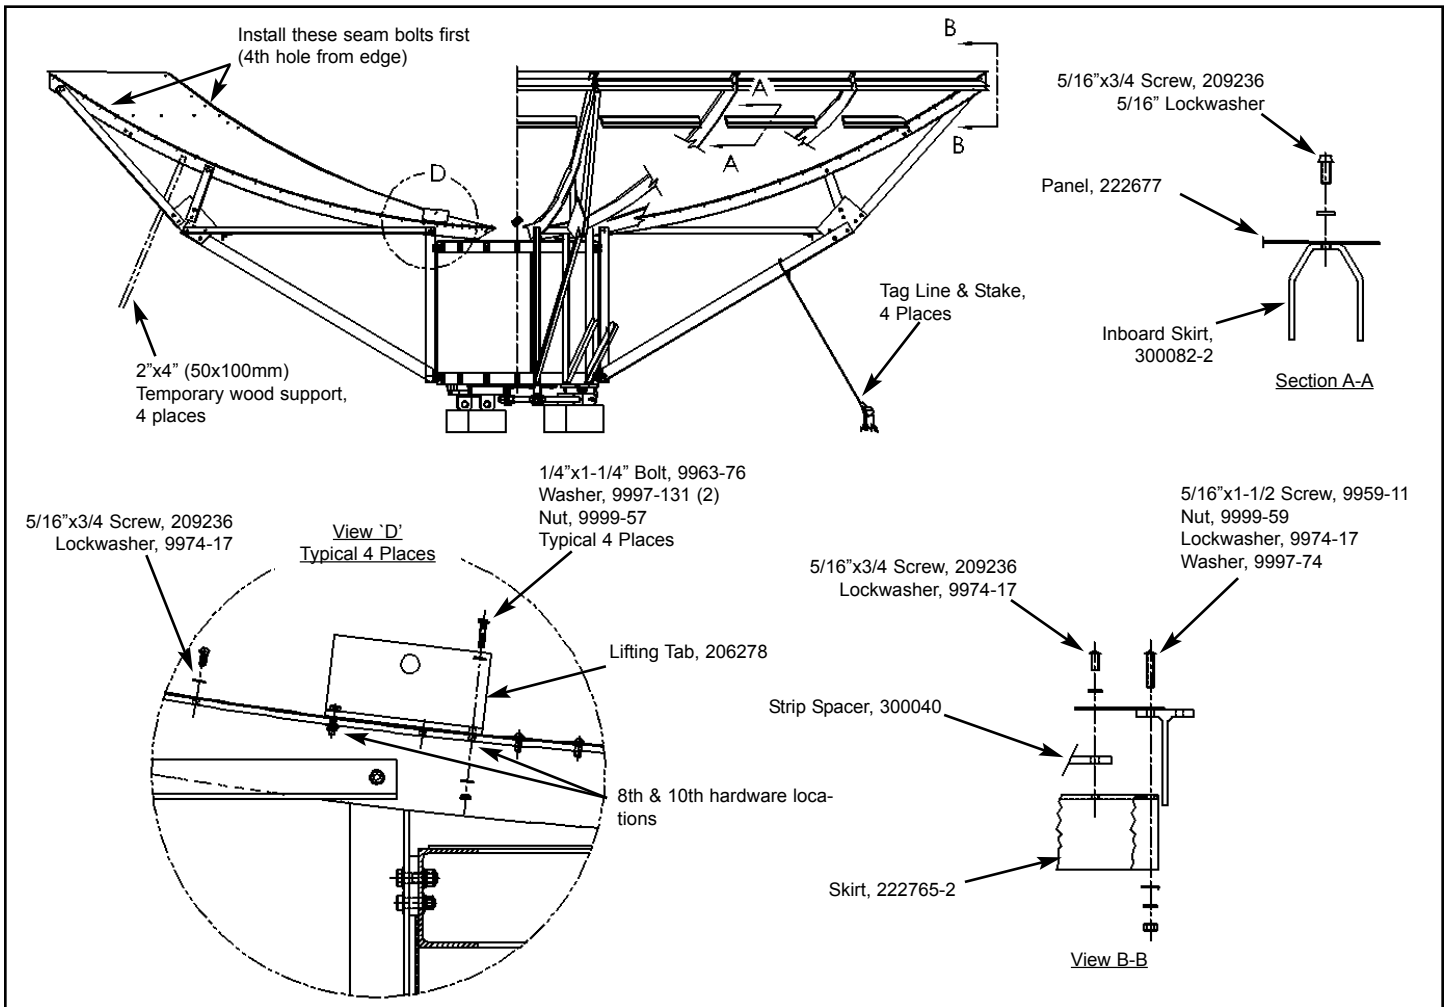
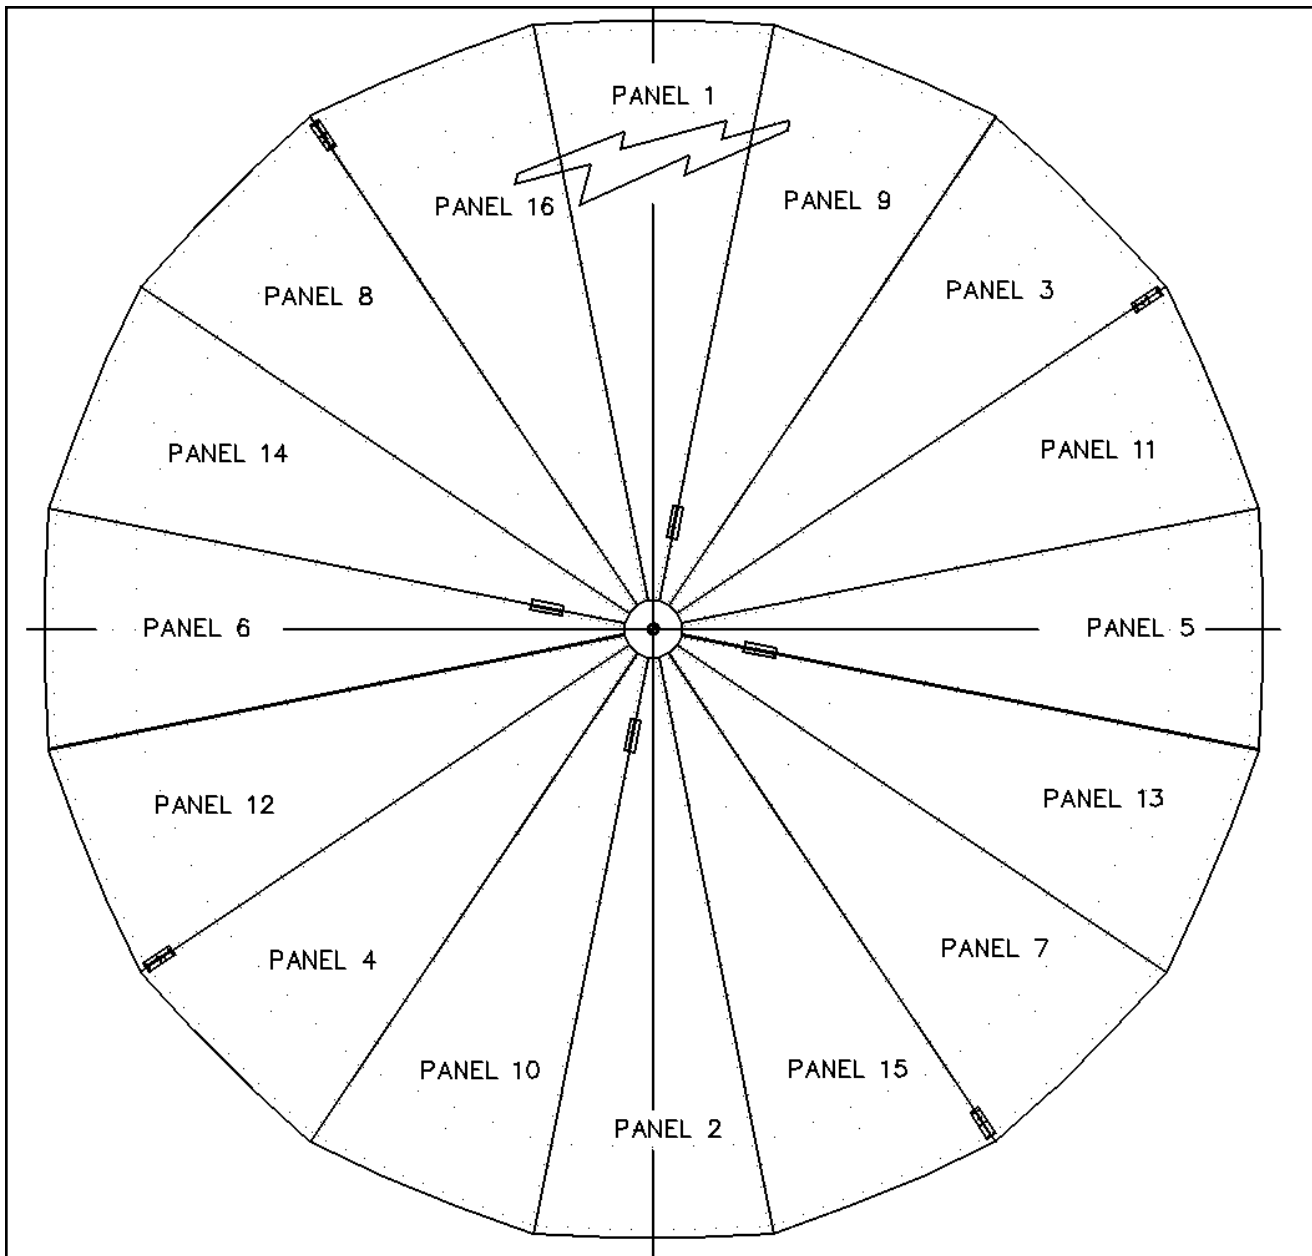

Figure 15
Figure 15A
Step 7 Attach stretch-formed Skirts (222765-2), Strip Spacer (300040) and Inboard Skirt (300082-2) to Reflector Panels (222677) before attaching panels to ribs. Refer to Figure 15, Section A-A & View B-B. Do not install outer-most screw on each side of skirt at this time.
Step 8 Attach the reflector panels by placing them on the ribs and sliding them inward, carefully guiding the rib flange between the skirt and panel. Place seam hardware (209236 & 9974-17) in the fourth hole from the outboard edge on both sides of the panel first, finger tight only. Then place all remaining hardware, finger tight only. then attach skirt to rib hardware as shown in Figure 15, View B-B, finger tight only. Panels should be added opposite to each other to balance the enclosure assembly (first attach panel 1 and panel 2, then panel 3 and panel 4, and so on).
Step 9 Loosely attach Lifting Tabs (206278), located on the 8th and 10th seam holes of the panel. Attach 90 deg. apart from each other (refer to Fig.15, View 'D' and Figure 15A).